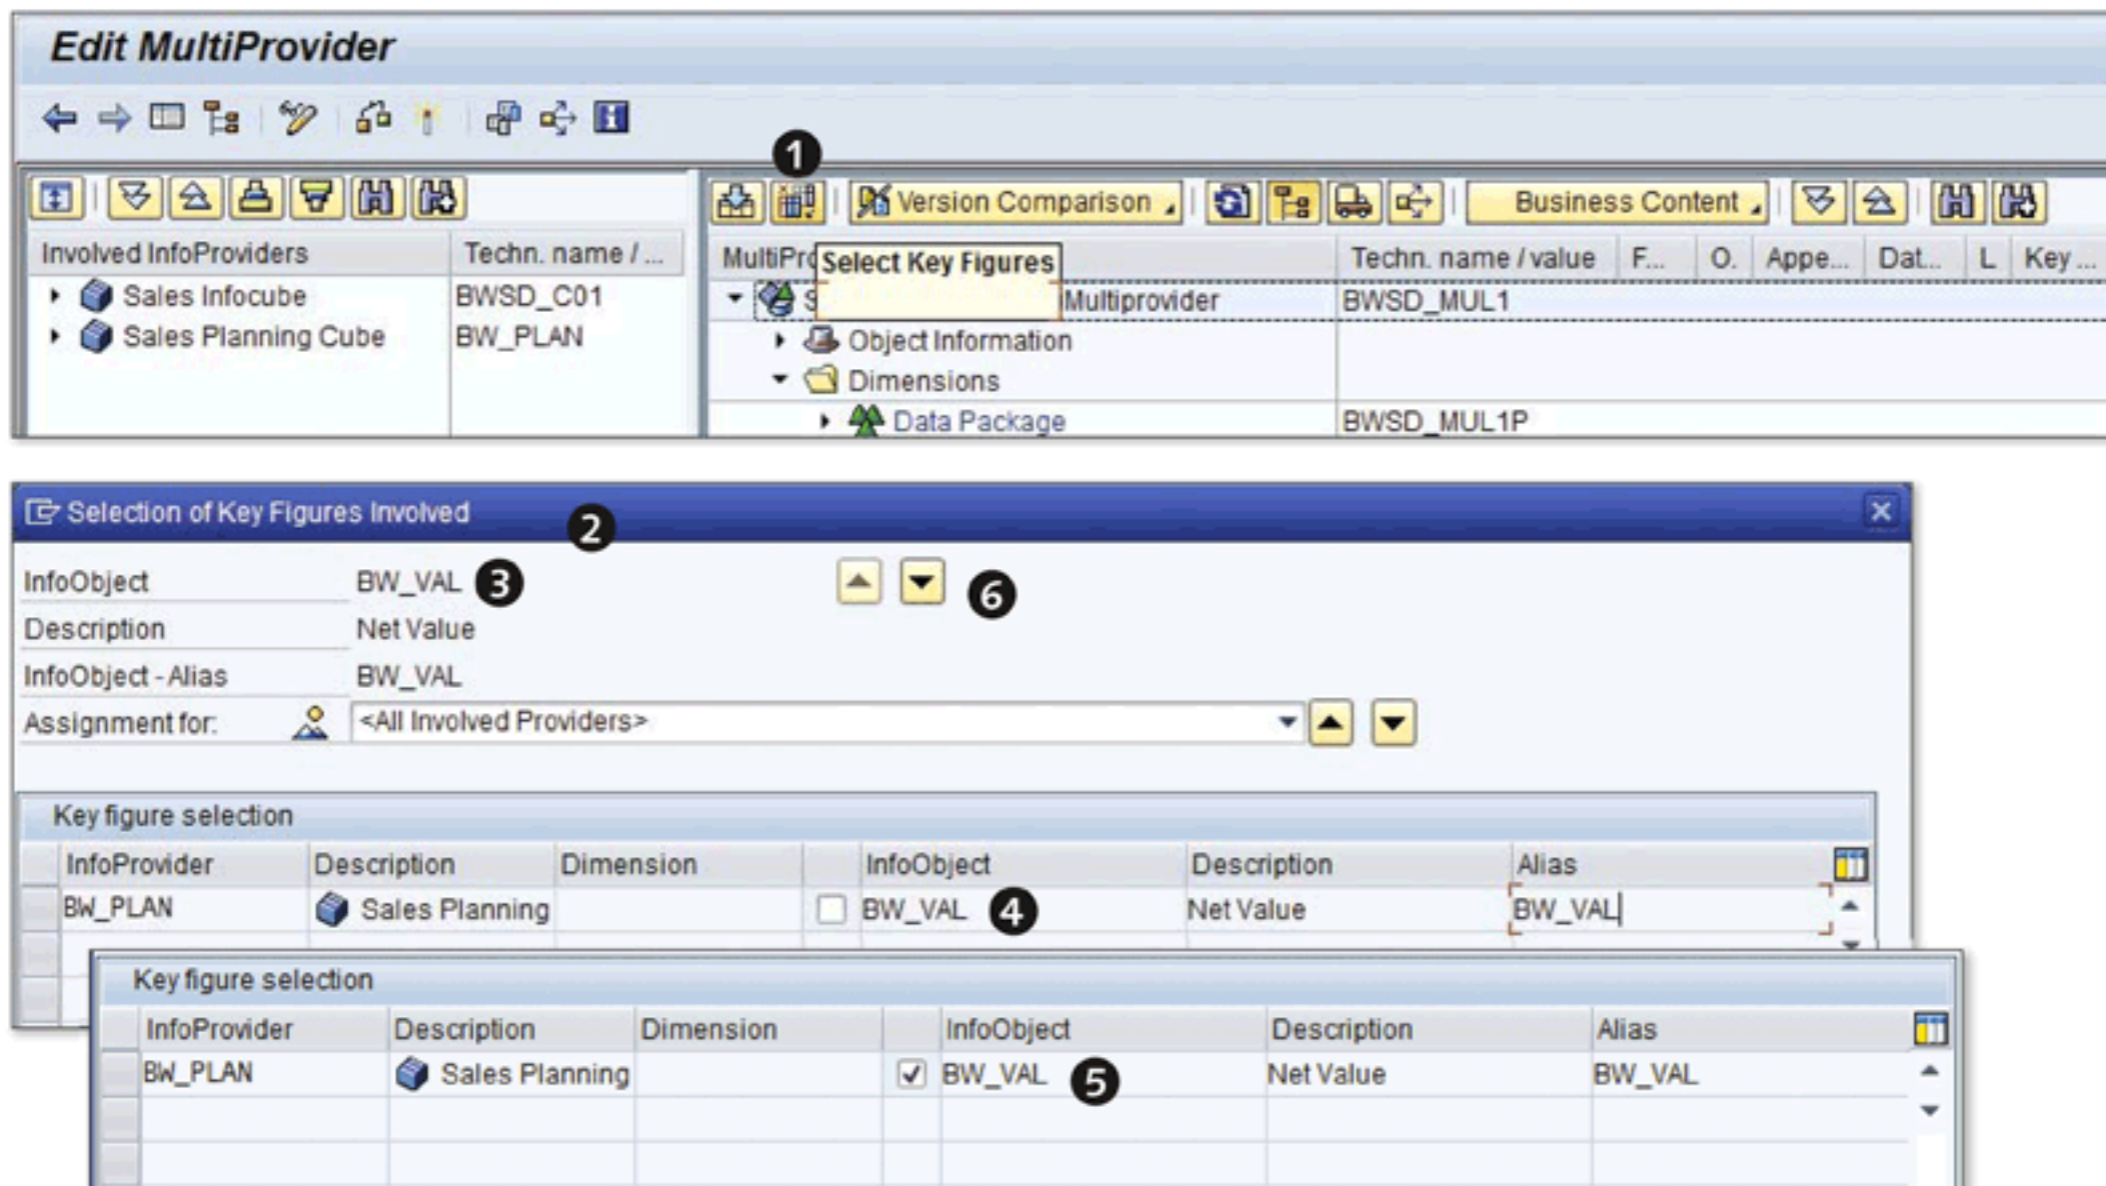

Figure 6.13 Edit MultiProvider: Selection of Key Figure Involved
After all of the characteristics included in a MultiProvider are matched, you also need to match the key figures. Click on the SELECT KEY FIGURES icon, as shown in ❶ of Figure 6.13. The SELECTION OF KEY FIGURES INVOLVED box appears (❷), and the system lists each key figure involved in the MultiProvider. As you can see in (❸), the system offers the BW_VAL key figure from the SALES PLANNING CUBE (❹). Because there's no matching key figure available in the SALES INFOCUBE, the system doesn't show any second key figures. Select BW_VAL (❺). You can go to the next key figure by clicking on the NEXT OBJECT icon (❻).